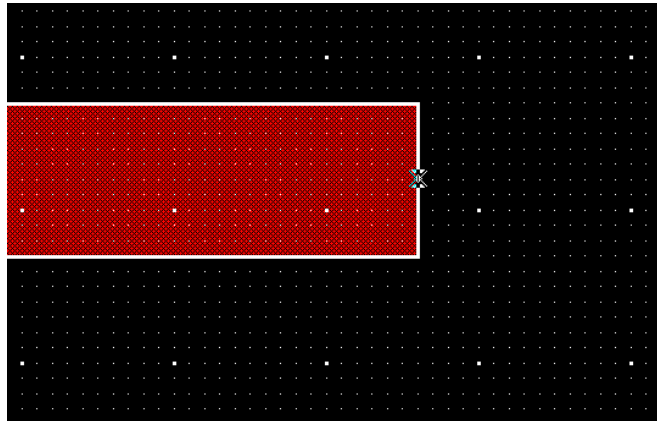

Figure 41: Setting Base Pointer to Middle of Edge
2. Set the base pointer to the middle of the rightmost edge (see Figure 41).